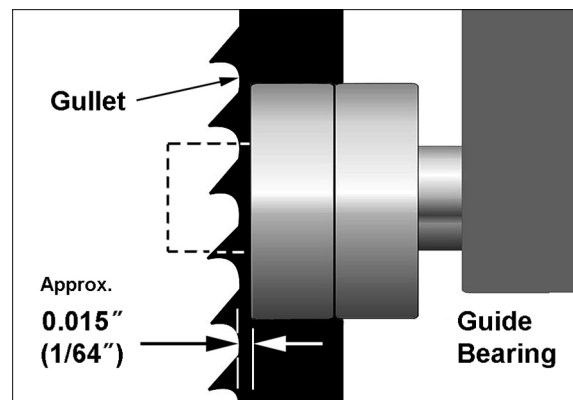

Figure 7-17
5. Slide entire guide bracket until front of guide bearings are about 0.015" (1/64") behind the blade's gullet (curved area at base of tooth). See Figure 7-17.